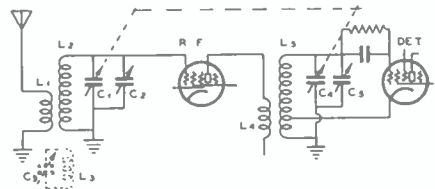

FIG. 1
**Tuned RF and Regenerative Detector:** In Figure 1 is shown a single stage of tuned RF and a regenerative detector. For proper performance, these two tuned circuits must resonate to the same frequency throughout the desired tuning range. It is required, therefore, that  $L_2$  and  $L_3$  have equal values of inductance and equal values of effective shunt capacity at each point on the tuning dial. The inductances may be closely matched by using similar coil forms and windings. If one coil is closer to some metal object, such as the chassis or shield, it will be difficult to obtain a good match unless coil turns are removed or shifted along the coil-form to change the effective coil length. A resonant antenna will unbalance the RF stage unless  $L_1$  is loosely coupled to  $L_2$ .